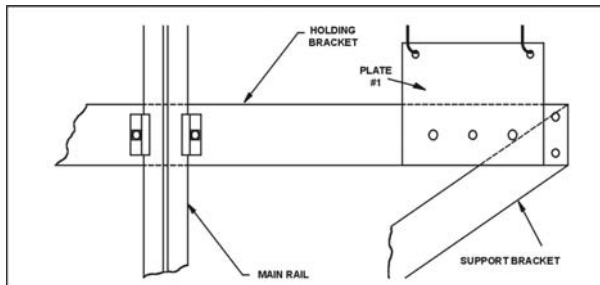

Figure 1-13
- Position the bottom support bracket to a position below the support bracket plate #1 that would allow the springs to become stretched to 1.5 times their original lengths. Verify the support bracket is inline with the top bracket and the centerline of the tape. Securely mount the bottom support bracket to the rail. [See Figure 1-13.]